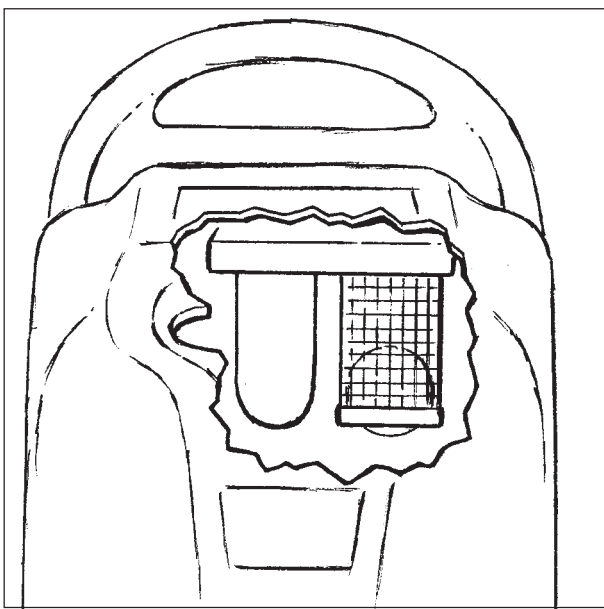

Figure 2
**NOTE: To avoid vacuum motor damage, always inspect the float filter and ball. Verify ball travels easily prior to use of unit. See Figure 2**